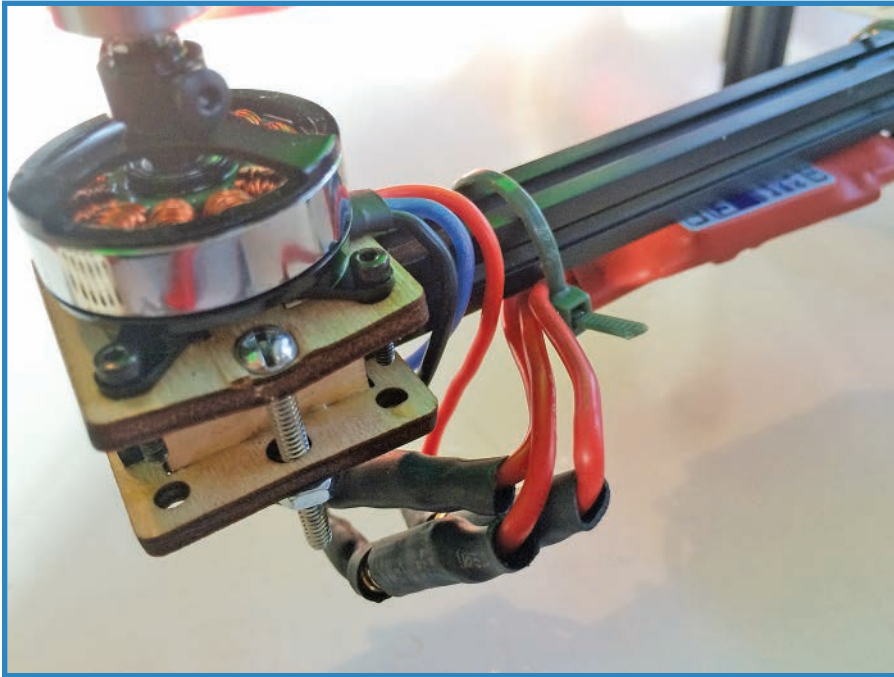

FIGURE 10.11 Connect the ESCs to the motors.
- 7. Connect!** Finish by snapping the motor's male plugs into the as ESCs' female plugs, as shown in Figure 10.11. You'll be connecting the actual battery in the next section. While you're at it, you'll want to cinch the zip ties tight to keep the ESCs in place.